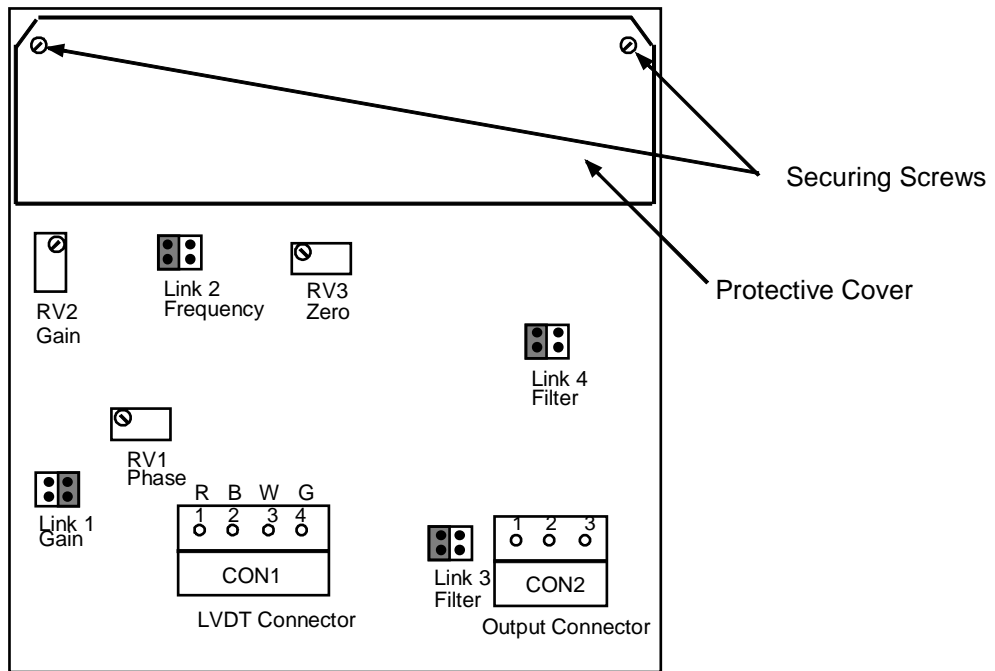

Fig. 2.1 - Protective Cover
- 2.5.5 Locate and remove the two (2) screws securing the protective cover (ref. fig. 2.1).